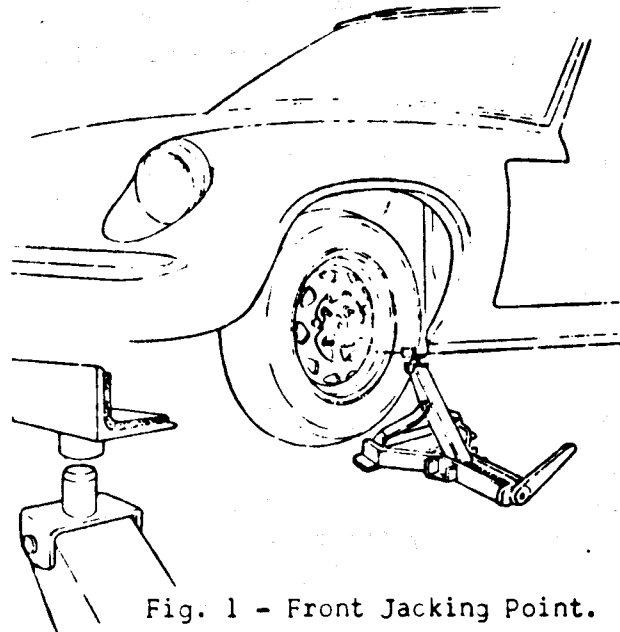

Fig. 1 - Front Jacking Point.
3. Apply the handbrake and raise the front of the car on a suitable jack. (see Fig.1) Place chassis stands in position then remove jack.